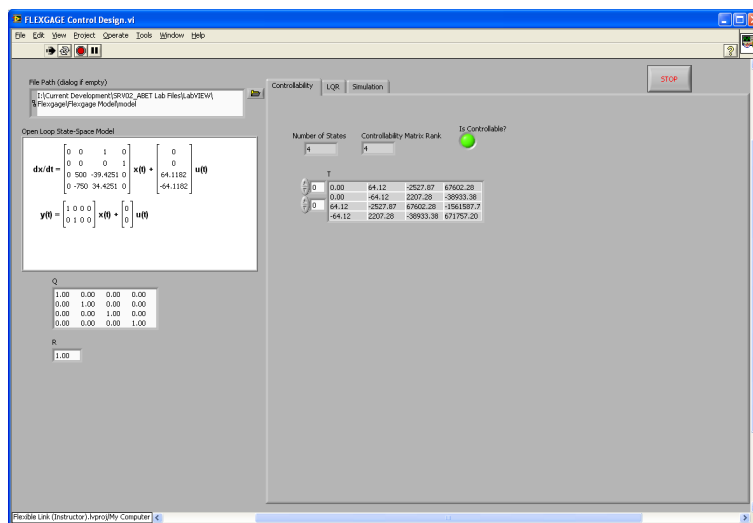

Figure 3.2: VI used to design the state-feedback control gain
The *FLEXGAGE Control Design* VI shown in Figure 3.2 is used to design the feedback control gain using the LQR algorithm. It also simulates the closed-loop response of the Flexible Link using the designed control gain. The VI reads the state-space model from the file that is specified by the user.
2. Run the VI. It should look similar to Figure 3.2 (except using your model). The VI will prompt you to find a model file (unless you selected a model in *File Path* already). Find the model you saved from the previous modeling lab.